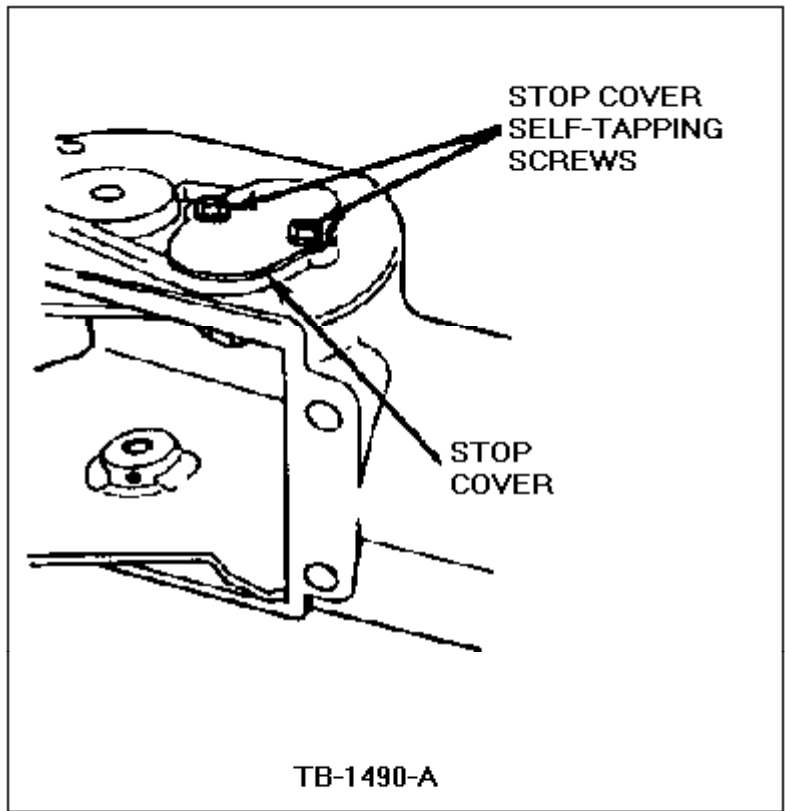

Figure 23 - Article 90-5-10
- Remove the two (2) self tapping screws, Figure 23